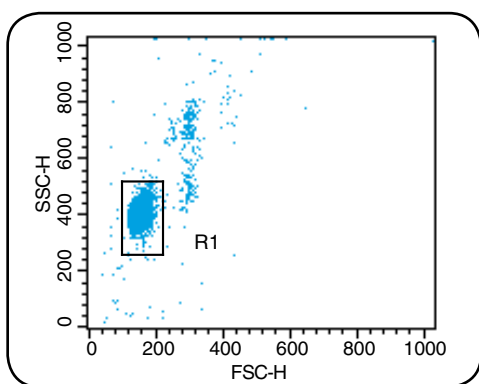

Figure 1
4. Using the forward scatter versus side scatter dot plot, construct a live gate around the singlet population of the blank. (Figure 1)